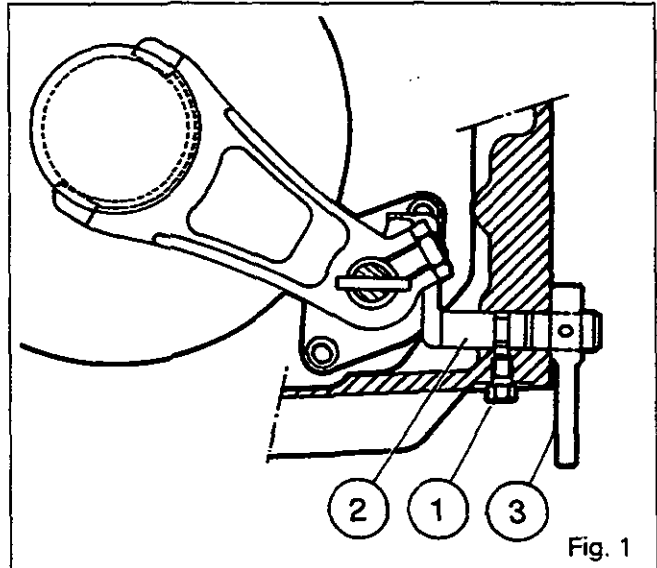
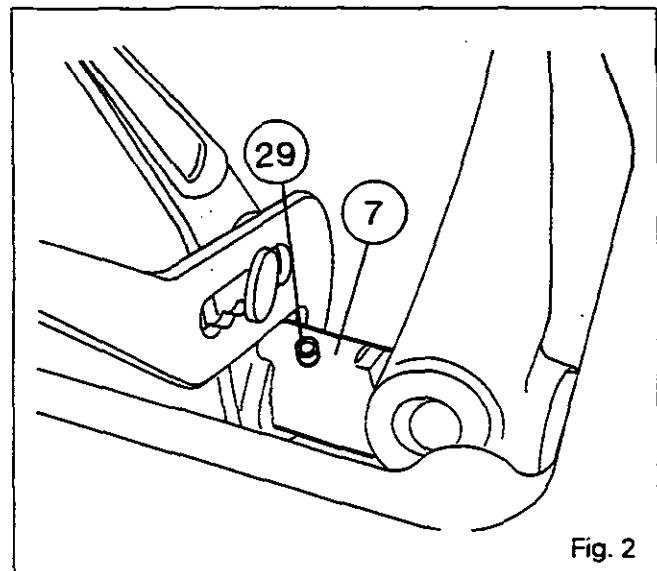

Fig. 1
Fig. 2
4. Remove the bolt (1), withdraw the rod (2) to disengage the finger from the fork (Fig. 1).
5. Unscrew the nut (26) and the locking screw (27) on the fork (28).
6. Remove the setscrew (8).
7. Turn the selector rail (7) and drive out the dowel (29) (Figures 2 and 3).